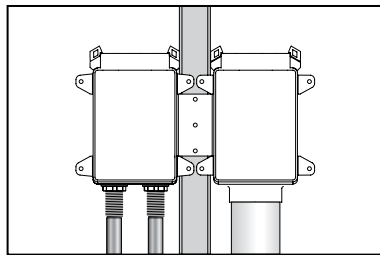

FIGURE 3
- a. Each outlet box shall be installed in a separate stud bay and attached to the stud (Figure 3 & 4). Fire rating does not apply to installations of two or more boxes in the same stud bay.